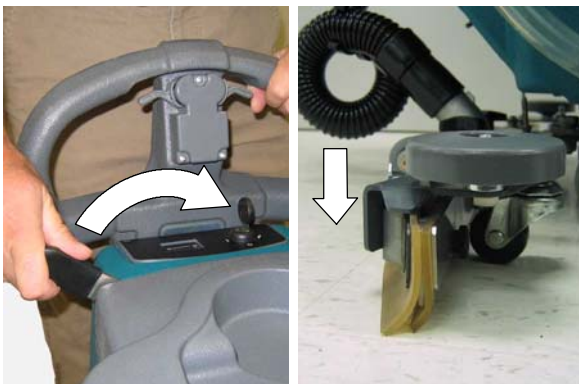

FIG. 17
2. Lower the squeegee assembly to the floor by moving the squeegee lift lever to the left (Figure 17). The vacuum motor will automatically turn on.